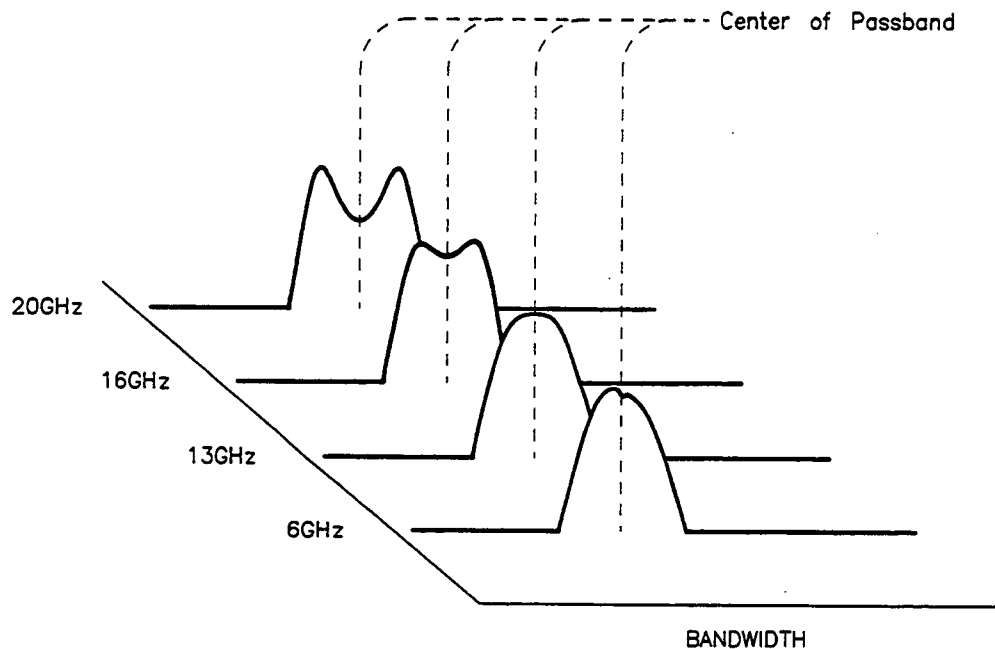

Figure 3-16. SYTM Passband Versus Frequency
- The passband of the SYTM varies with frequency. The SYTM adjustments set the input frequency to the SYTM to the center of the passband. Adjusting for the dip at higher frequencies actually adjusts for the dip which occurs in the center of the passbands of those frequencies (see figure 3-16).